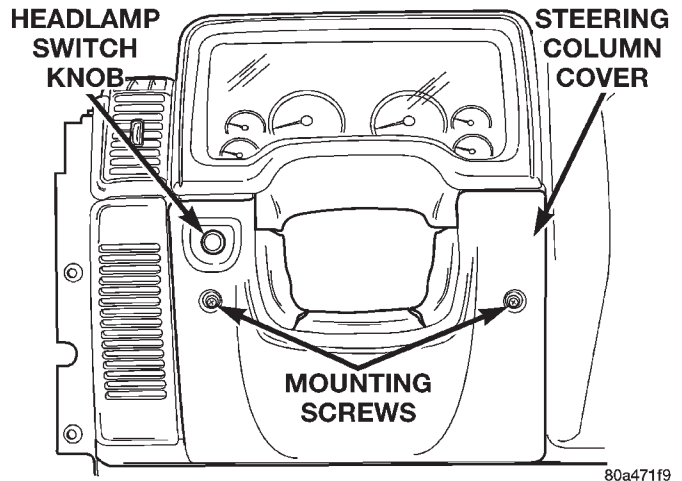

Fig. 3 Steering Column Opening Cover Remove/Install
- (1) Disconnect and isolate the battery negative cable.
- (2) If the vehicle is so equipped, move the tilt steering column to the fully raised position.
- (3) Remove the knob and shaft from the headlamp switch. See Headlamp Switch in this group for the procedures.
- (4) Remove the two screws that secure the steering column opening cover to the instrument panel (Fig. 3).
- (5) Pull the steering column opening cover straight back away from the instrument panel as far as possible.
- (6) Rock the lower edge of the steering column opening cover rearward to disengage the hook forma-